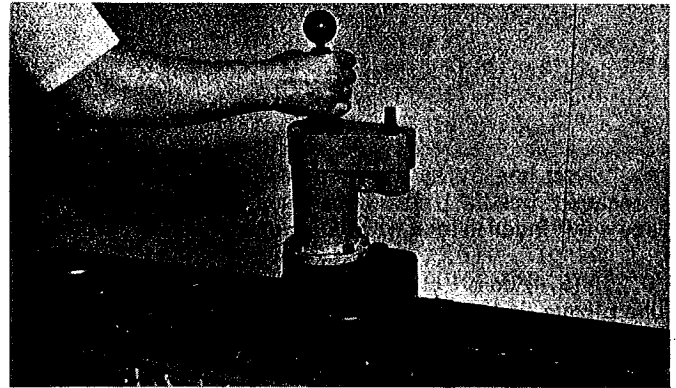
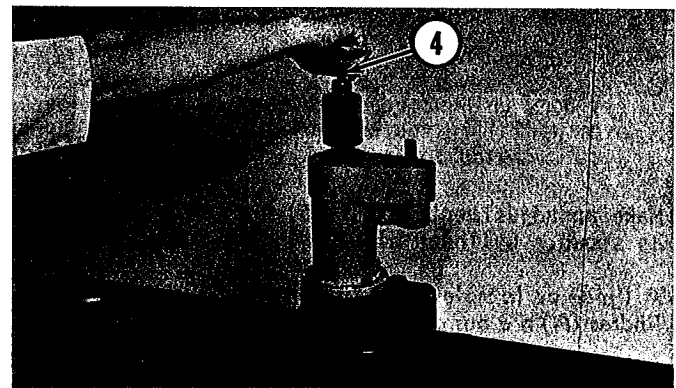
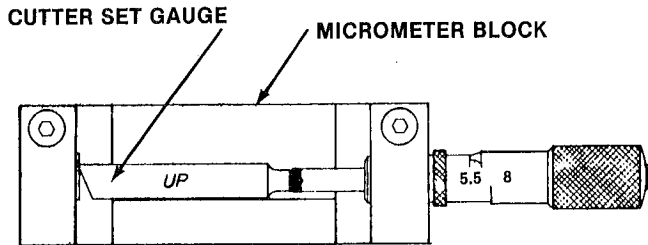

Fig. 4
Fig. 5
Fig. 7
5. Lift the cutter plate up out of the liner pilot bore, as shown in Fig. 4. Close the needle valve by rotating the feed control knob clockwise as shown in Fig. 5. Thoroughly clean the cutter plate slot before inserting the cutter.
6. The counterboring operation to accept the repair bushing should be completed in (2) cuts. A cutter set gage is provided for setting the cutter for the finish size on all bore sizes. The micrometer should be used for setting size on the rough cut. Table 6 is a chart which gives various sizes and tolerance ranges to use in setting up the Porta-Matic tool and inspecting the cut counterbore.
7. To set the finish size on cutter, place the appropriate cutter set gauge in the micrometer block assembly. The micrometer should read the same as the size stamped on the side of the cutter set gauge. Make sure that the side stamped "UP" is on the top. Remove the cutter set gauge and set the specified cutter to the exact same size as the cutter set gauge demonstrated in Figures 7 & 8.